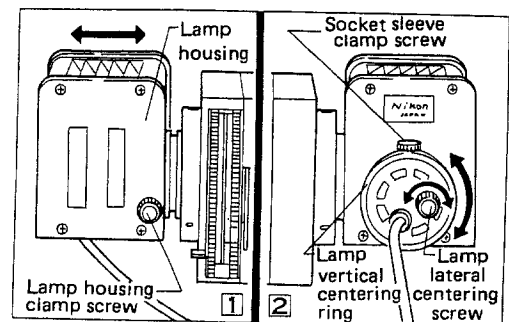
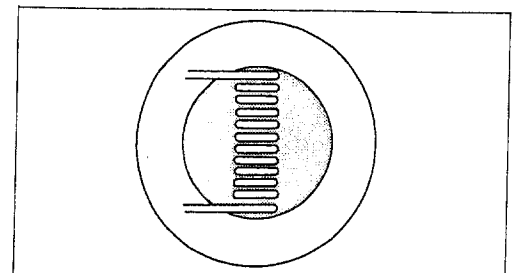

Fig. 7
Fig. 8
- ⑥ Release the lamp housing clamp screw, and move the lamp housing back and forth (Fig. 7- ① ), until the filament image is focused on the diffuser and the exit pupil.
- ⑦ Thereafter, releasing the socket sleeve clamp screw, rotate the lamp lateral centering screw and vertical centering ring (Fig. 7- ② ) so that the filament image is centered to the exit pupil. (Fig. 8)